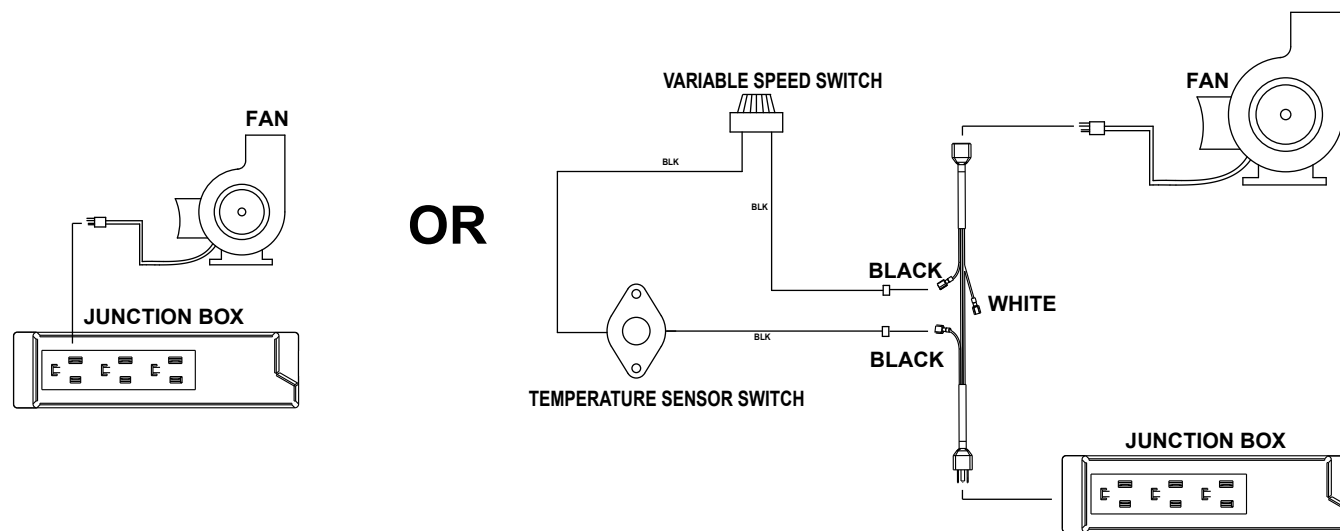

Figure 4. Fan Wiring Diagram
3. Connect the variable speed control and the temperature sensor switch to the junction box with the wires provided. See Figure 4 for the wiring diagram that matches the style of junction box on the fireplace.